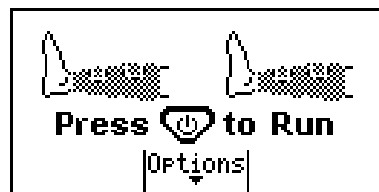

Figure 13 - LCD Display - Two Single-Chamber Calf or Thigh/Calf Garments Connected
- 2.3.1 Figure 13 shows two single-chamber calf or thigh/calf garments connected to the pump.